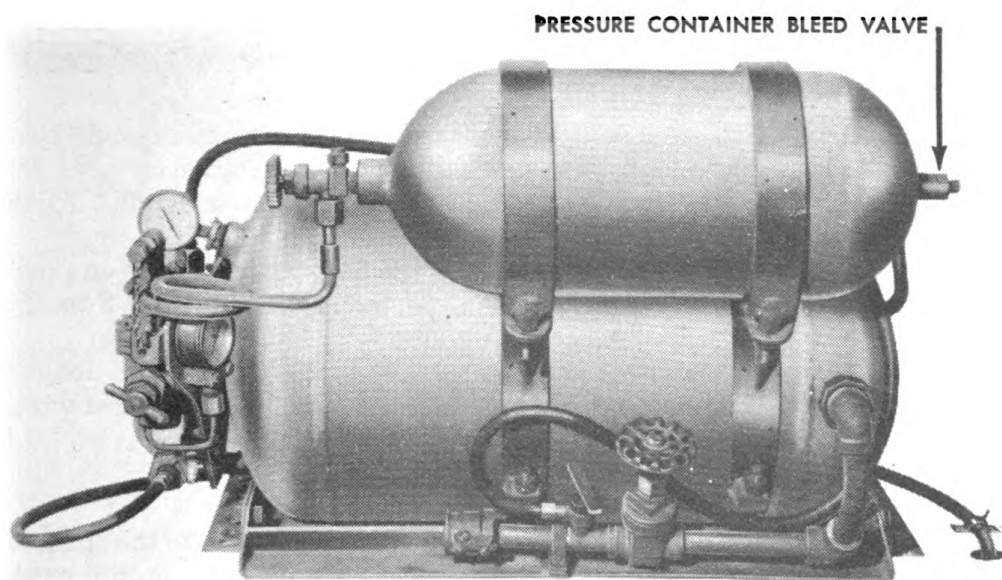

Fig. 23. Sponson fuel group completely assembled.
j. Bleed hose. Attach bleed hose coupling to male connection on top of bleed valve. Other end of bleed hose should be connected to blow-off valve. Tighten with wrench. Fuel and pressure group is now completely assembled (fig. 23).
a. Using bolts. (1) Slide fuel group against side wall of vehicle, so that rear of base is flush with side wall of vehicle.
(2) Slide fuel group backward on sponson shelf until pressure container touches padding over and in back of assistant driver's position.
(3) Locate position where the four holes are to be drilled through sponson shelf to hold baseplate to sponson shelf. Use center punch to mark location of holes.
(4) Slide fuel group forward and drill two back holes for 1/2-inch bolts. Slide fuel group backward and sidewise. Drill two front holes.
(5) Slide fuel group so that the four holes in sponson shelf and base bracket are alined.
(6) Insert in these holes the four 1/2-inch bolts which come in a cloth bag tied to a brace in sponson fuel group packing box. A man on outside of vehicle applies a nut and lock washer to each of the four bolts. He tightens the nuts while the man inside the vehicle holds them with a wrench.
c. Make an improvised clamp to hold inside portion of hose in place on the shelf. Bolt or tack weld clamp to shelf approximately 2 inches from the hole. Wire the hose to the clamp (fig. 23).